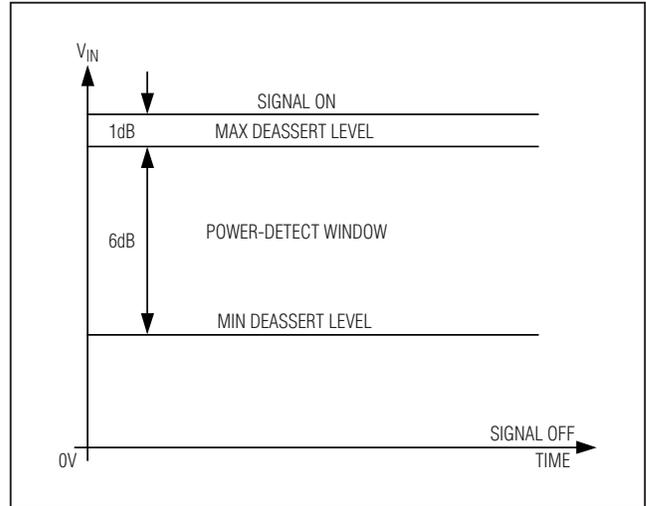

Figure 2. LOS Deassert Threshold Set 1dB Below the Minimum by Receiver Sensitivity (for Selected RTH)
- Note 8:** The signal at the input is switched between two amplitudes, Signal_ON and Signal_OFF, as shown in Figure 2.